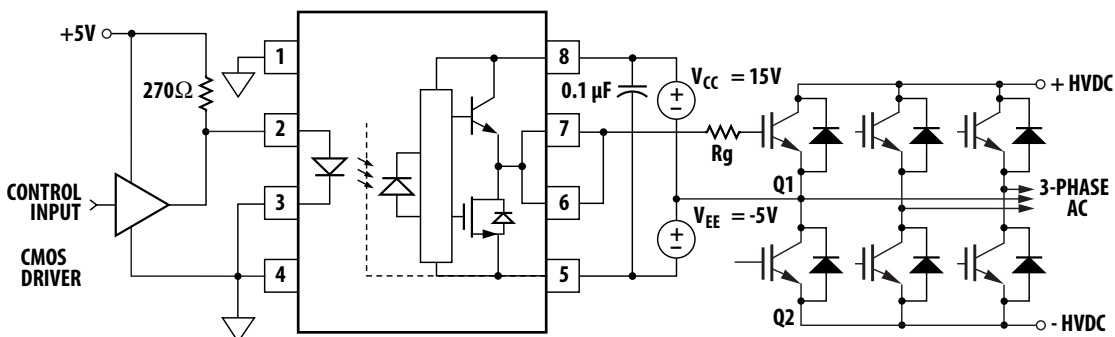

Figure 26. ACPL-312T typical application circuit with negative IGBT gate drive.
Step 1: Calculate R_g Minimum from the I_{OL} Peak Specification. The IGBT and R_g in Figure 26 can be analyzed as a simple RC circuit with a voltage supplied by the HCPL-3120.
For the circuit in Figure 26 with I_F (worst case) = 16 mA, R_G = 8 Ω , Max Duty Cycle = 80%, Q_G = 500 nC, f = 20 kHz and T_A max = 85C: